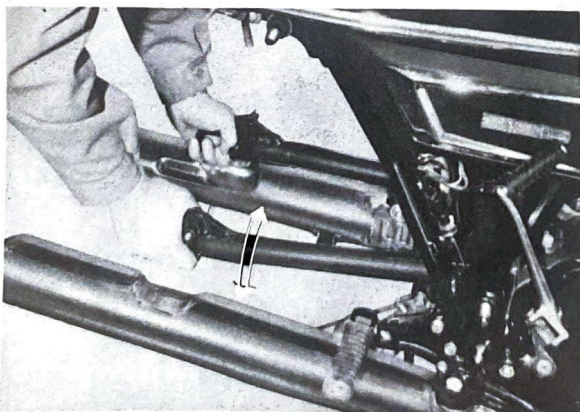

Fig. 5-9-4
- 2) Insert the bushing as indicated in Fig. 5-9-4, and check it for play. If the play is excessive, replace the bushing.
- 1) Check the play of the rear arm by shaking it as shown in Fig. 5-9-4, with the rear arm installed. If the play is excessive, replace the rear arm bushing or the rear arm shaft, whichever shows the wear.